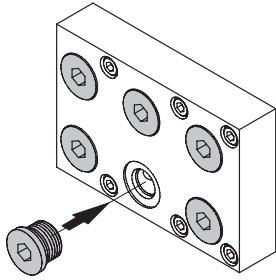

Figure 5-15
3. Close hose connections with Nordson port plugs (Fig. 5-15).